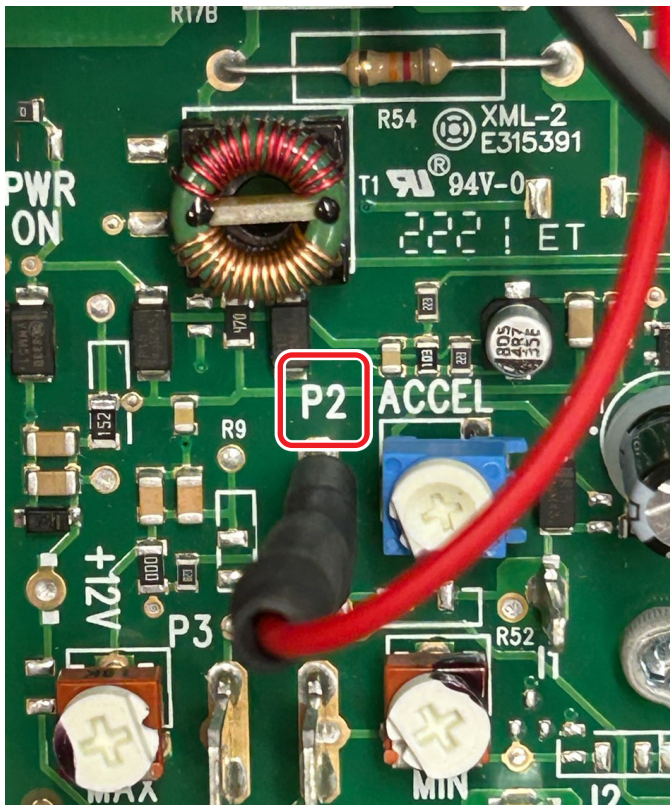

FIGURE 13—P2 is indicated by the red rectangle.
- K. The Red wire connector is pushed onto the spade post “P2” (see Figures 13 and 14).